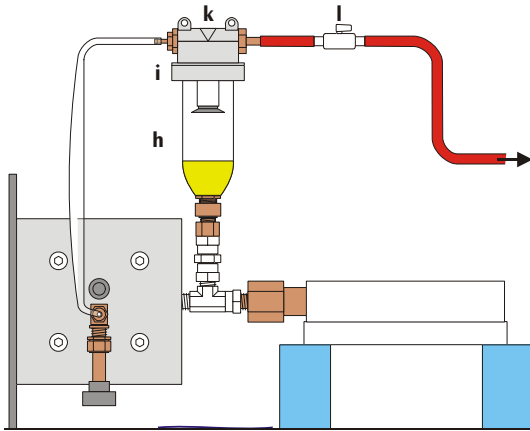

Fig. 8: Assembly of the oil filling device and connection of vacuum pump (h) oil container, (i) valve nut, (k) cover, (l) stopcock (or variable-leak valve)
- Loosen the valve nut of the oil filling device, remove the cover and place the valve nut above the safety valve (see Fig. 8).